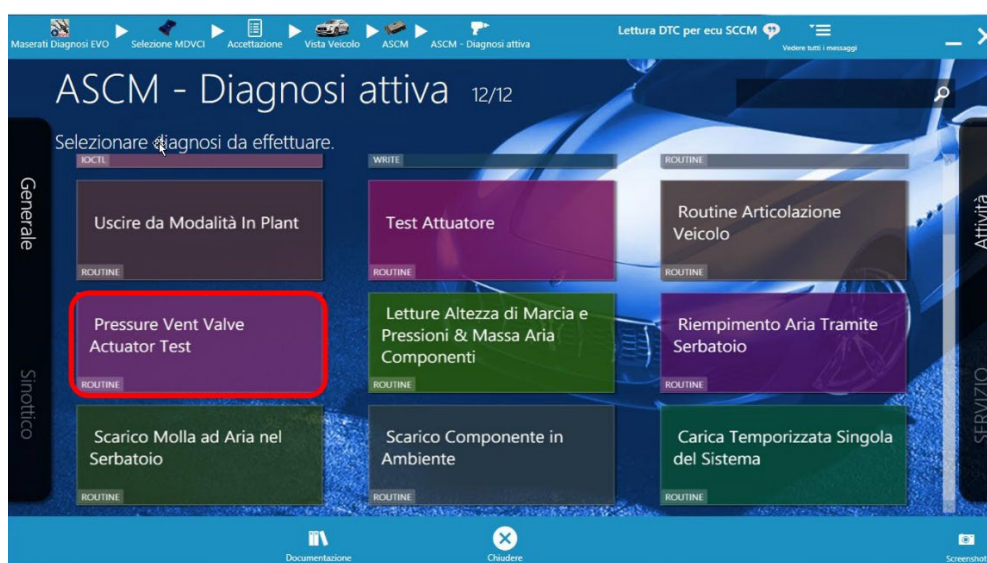

Figure 5: Active Diagnosis > Pressure Vent Valve Actuator Test.
6. Perform, three times, the Active Diagnosis > Pressure Vent Valve Actuator Test of the ASCM module, as shown in Figure 5.